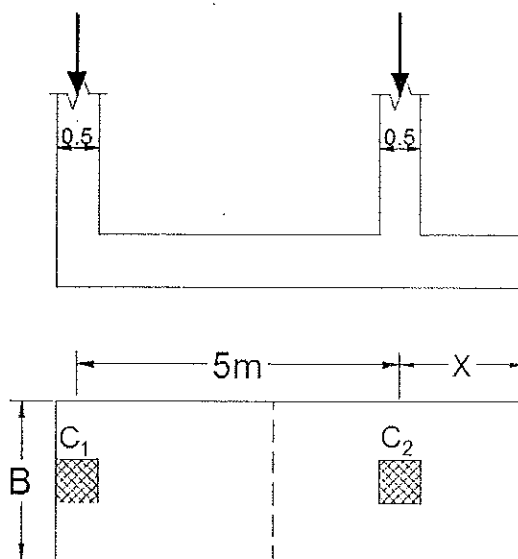

Figure Q2
Design the foundation shown in Figure Q2 to support the following two columns with uniform contact pressure: Dead load (DL) and live load (LL) acting on each column are: